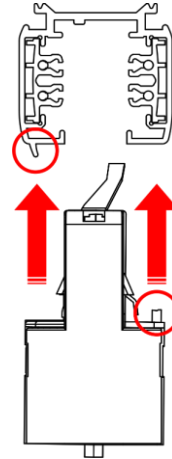

Fig. 07
- 03) Align the flange of the **track adapter (01)** with the track, as shown in Fig. 07.